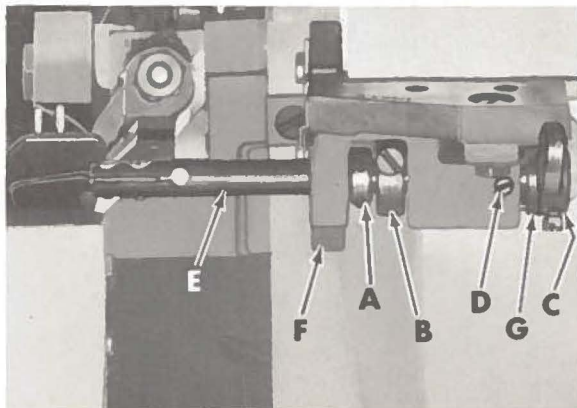

Fig. 19
With feed dogs still at their highest position, loosen screws in collar (A, Fig. 19), actuating collar (B), operating lever (C) and loosen tension screw (D). Move shaft (E) to the left or right as required to center shirring blade over differential feed dog. While holding blade in position, thrust both collars (A and B) against shaft bracket (F) to eliminate any end play in the shirring blade shaft, then tighten screws in collars (A and B). With the shirring blade properly adjusted and in position, set operating lever (C) in the slot of the shaft bracket and tighten its screw.